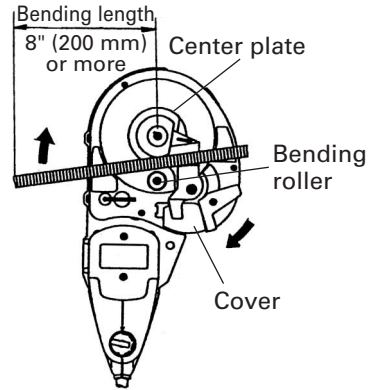
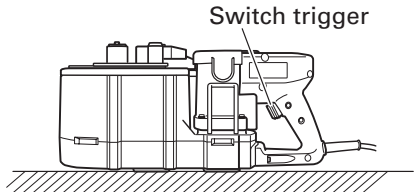

Fig. 14
Fig. 15
- (1) Set the unit in the position with the turntable up as shown in Fig. 14.
- (2) Make sure that the cover is closed.
- (4) Place the rebar on the center plate and set it correctly as shown in Fig. 14.
- (5) Pull the switch trigger and bent the rebar.
- (6) Continue pulling the switch trigger until the motor makes reverse rotation and the bending roller starts to return. (Once the bending roller starts to return, it will automatically return all the way to the home position even if the switch trigger is released.)(Fig. 15)
If the bending length is not long enough, the rebar can come off during bending operation, or it can break into fragments and scatter dangerously. (Fig. 14)